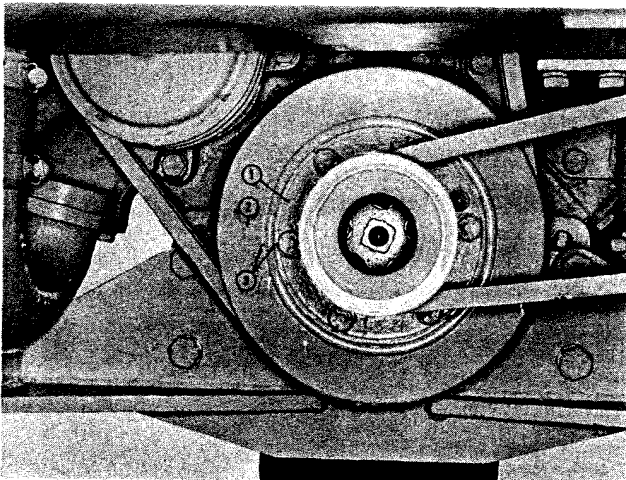

Fig. 2-23, (V11963). Vibration damper alignment marks
Damper hub (1, Fig. 2-23) and inertia member (2) are stamped with an index mark (3) to permit detection of movement between the two components.